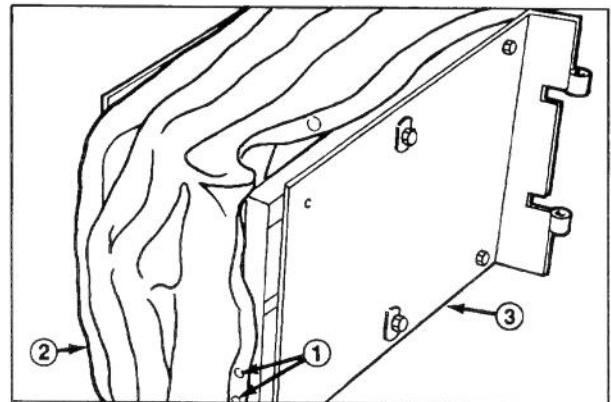

Figure 6
11. Unsnap rubber bellows and mount seat suspension to seat mount with (4) capscrews, lockwashers and nuts (Fig. 6).